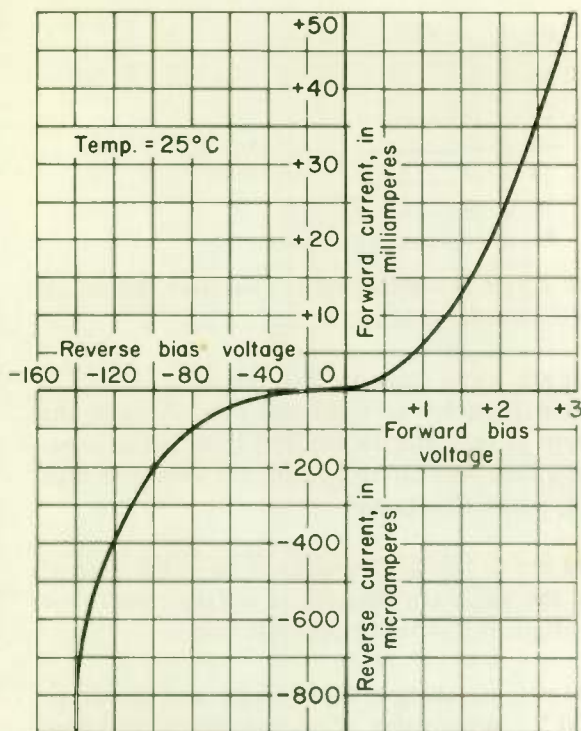

Fig. 13 Volt-ampere characteristic curve for the IN63 diode.
origin than it has on the positive side. For example, in Fig. 13, one block on the y axis scale above the origin represents 5 mA and one block on the y axis below the origin represents 100 μA . Similarly, one block on the x axis to the right of the origin represents 0.5 V and one block to the left of the origin represents 20 V. Note in Fig. 13 how a plus voltage means a voltage that forward-biases the diode and a negative voltage means one that reverse-biases the diode. Similarly, forward current through the diode is considered positive and leakage-current flow in the opposite direction is considered negative.
5. The scales used in Fig. 13 are (a) *(linear) (nonlinear)* on either side of the (b) _____, but the value per division is (c) *(the same) (not the same)* on one side of the origin as it is on the opposite side.
6. Refer to Fig. 13. Assume you are using a 1N63 diode and decide to apply a reverse voltage of 100 V. What value of reverse current will flow through the diode?
7. Refer to Fig. 13. Complete the following table. Remember, a negative value of current or voltage means reverse current or reverse voltage.